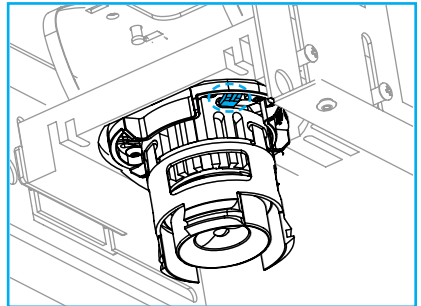

Fig. 9
**Note** LED module will not rotate further, nor move loosely, once properly engaged with retention tabs (Fig. 9).